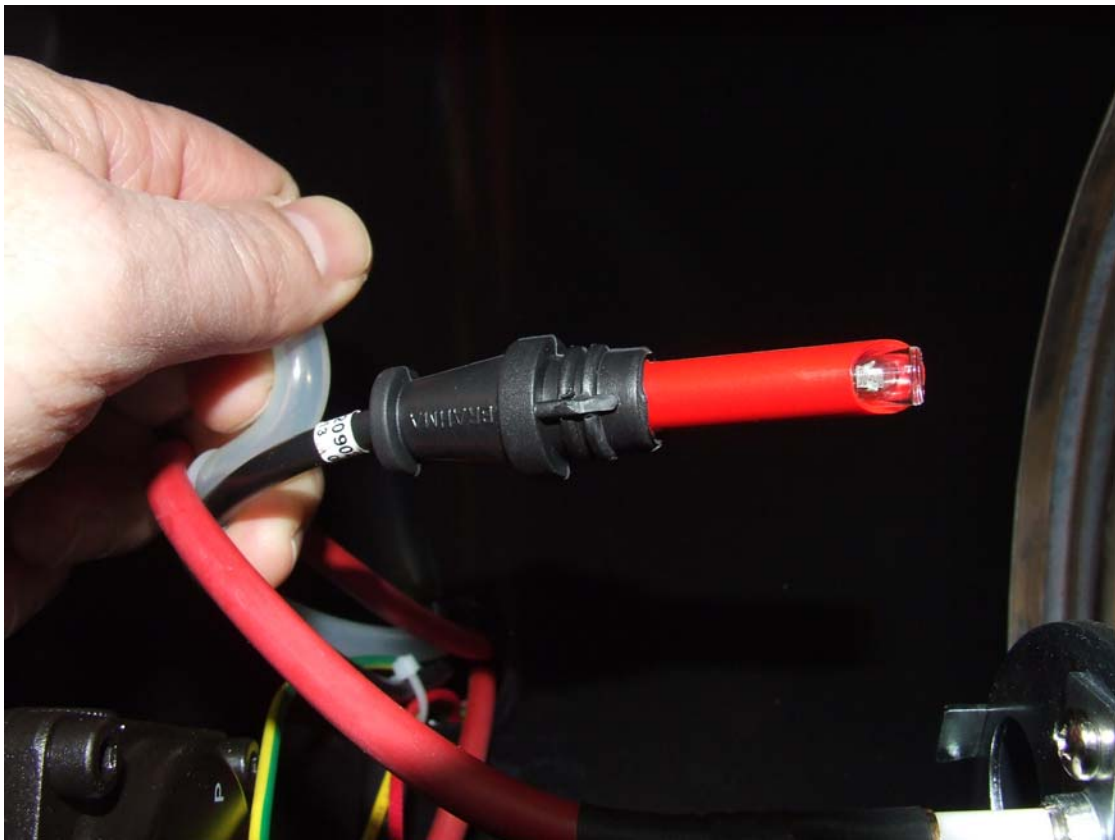

Figure 5-12 – Photocell
1. Install new photocell lead through base (30) up into lower heat shield (06).
2. Install photocell lead (66) into flame detector holder (93) by aligning rubber tab on photocell lead with slot in of the flame detector holder, 3 o'clock position. Ensure photocell lead is seated. (See Figure 5-12).